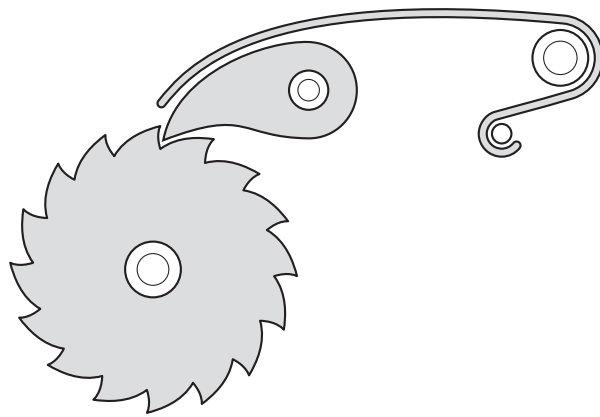

Fig. 8
- (d) Another type of locking device is a ratchet and pawl. Fig. 8 shows a diagram of a ratchet and pawl.
- (i) Add labels to Fig. 8 to show the following: